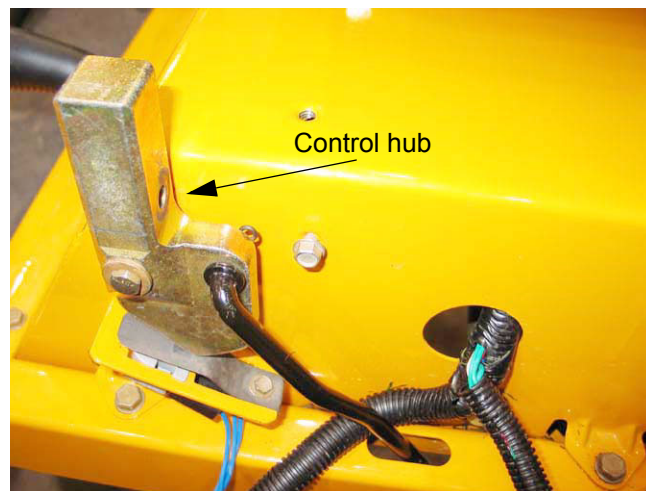

Figure 13.4
- 13.4. Remove hex head cap screw and flat washer securing the control hub to the control shaft. See Figure 13.4.